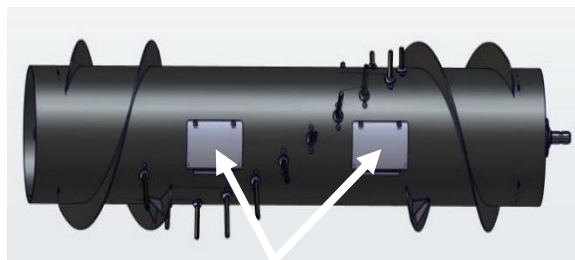

Figure 12
- The lifting straps can be installed through the access panels in the auger as shown in Figure 12.
8. The auger cross shaft can be removed. To gain access to the auger remove all the covers on the auger tube. Figure 12